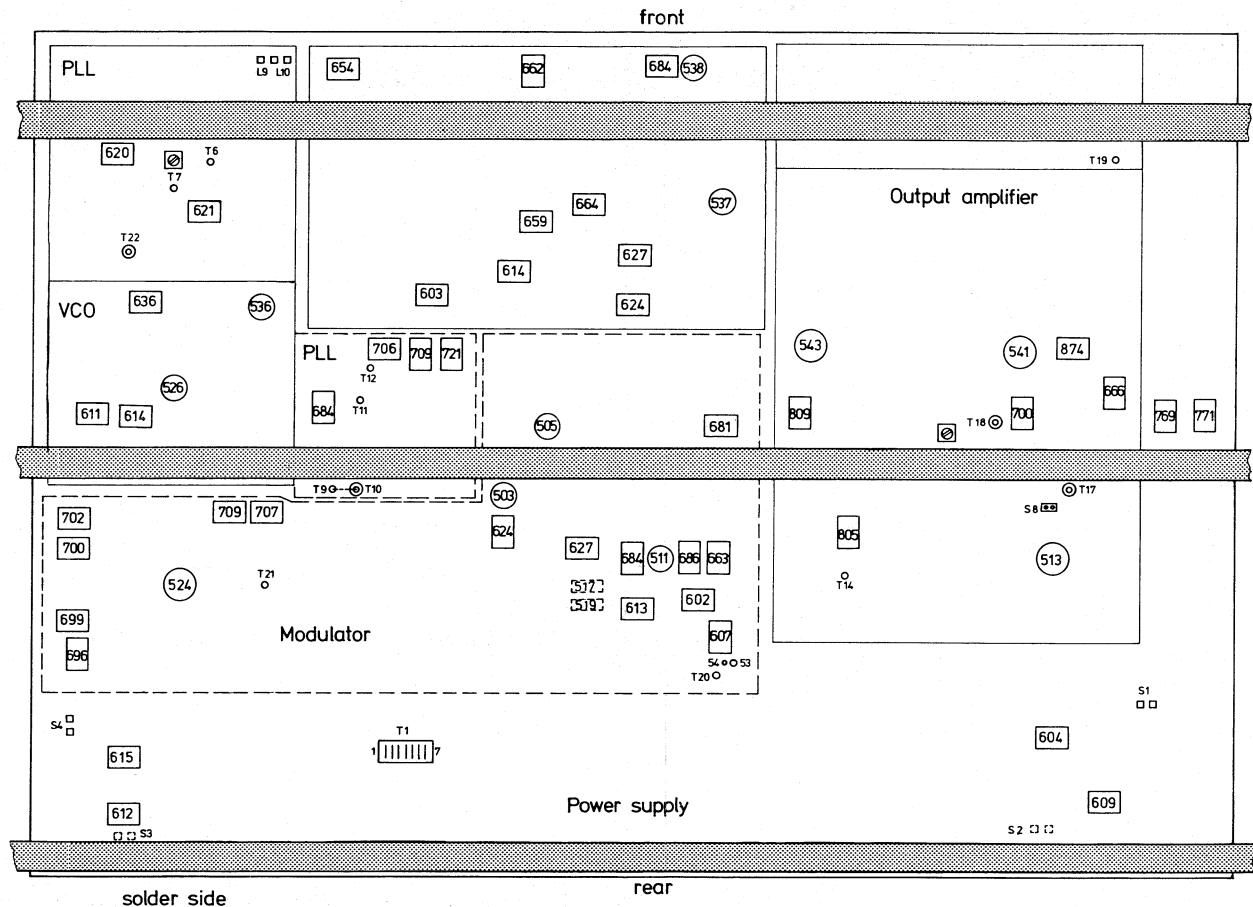

Fig. 29
- Fig. 29 Unit 1, adjusting elements